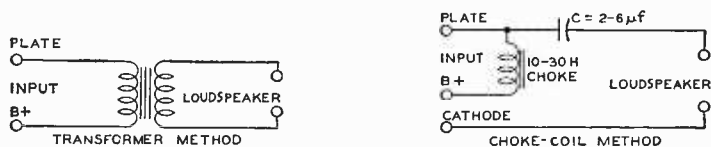

Fig. 76
Output-coupling devices are of two types, (1) choke-capacitor and (2) transformer. The choke-capacitor type includes an iron-core choke with an inductance of not less than 10 henrys which is placed in series with the plate and B-supply. The choke offers a very low resistance to the dc plate current component of the signal voltage but opposes the flow of the fluctuating component. A bypass capacitor of 2 to 6  $\mu\text{f}$  supplies a path to the speaker winding for the signal voltage. The transformer type is constructed with two separate windings, a primary and a secondary wound on an iron core. This construction permits designing each winding to meet the requirements of its position in the circuit. Typical arrangements of each type of coupling device are shown in Fig. 76. Examples of transformers for push-pull stages are shown in several of the circuits given in the **CIRCUIT SECTION**.